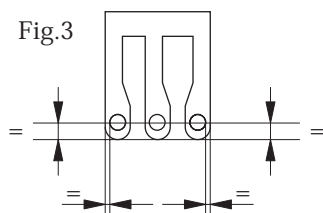

Fig.3
5. For the orientation of needle bar or needle holder, insert new needles in "**L0** , **L1** and **L2**", orientate needle bar so that the needles are centered in the needle plate holes. Make sure that neither needle "**L0** , **L1** nor **L2**" is touching the inside of the needle plate holes. Tighten screw "**a**" and recheck the height.(Fig.3)